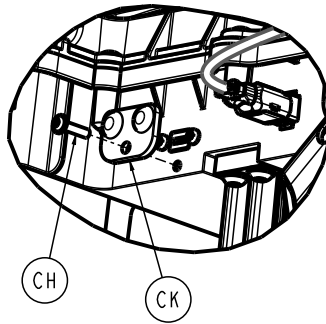

Figure 7 – Remove the USB port cover
3. Using a T10 Torx driver, loosen the screw (CH) that secures the USB port cover (CK) to the foot end enclosure. Allow the cover to swing down for access to the USB port (Figure 7).